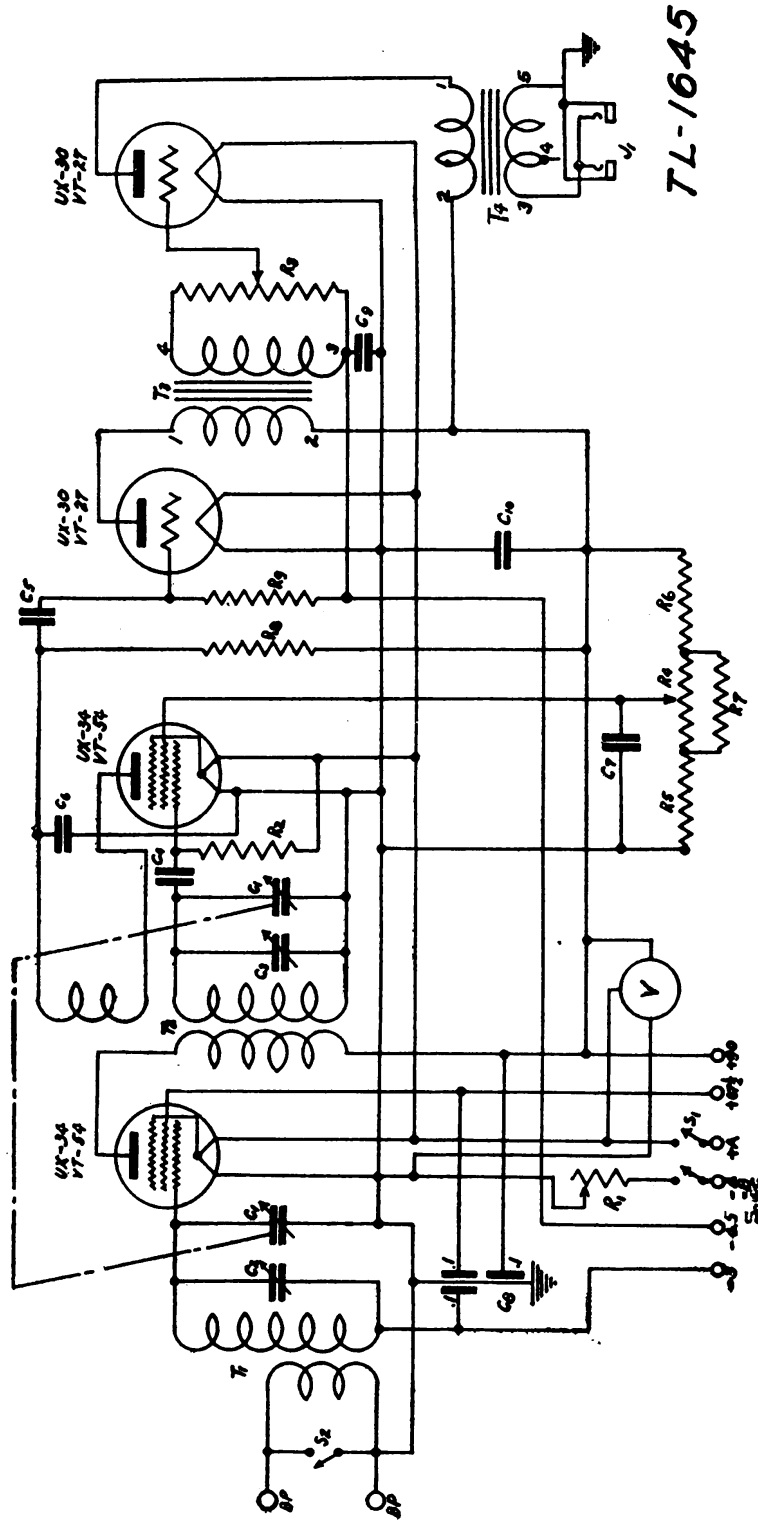

FIGURE 27.—Radio receiver BC-186, circuit diagram.
16. Radio receiver BC-186 (figs. 27, 28, and 29).—*a.* The receiver consists of one stage of radio-frequency amplification, a detector, and two stages of audio-frequency amplification. The antenna counter-poise circuit is inductively coupled to the radio-frequency amplifier by transformer T_1 . The radio-frequency amplifier is coupled to the